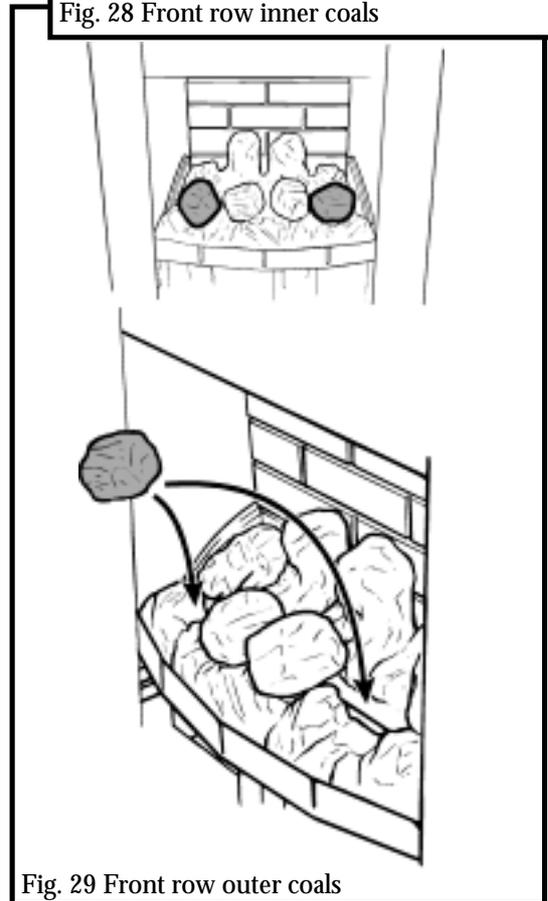

Fig. 29 Front row outer coals
10.5.2 Place two of the remaining coals in the two outer valleys of the front coal (One each side of the large coals) (See figure 29). Place the left side coal so that the customer will be able to see the pilot flame below the coal.